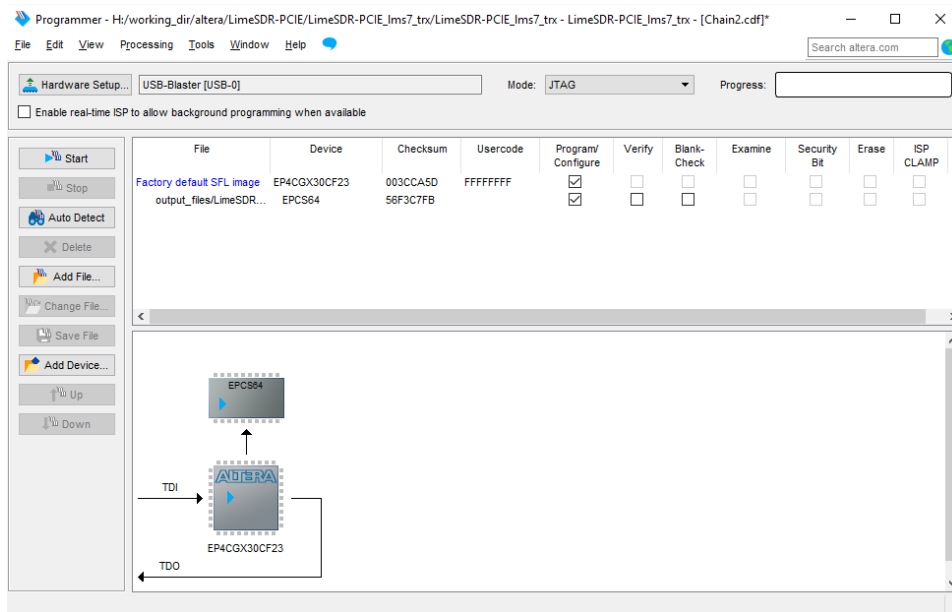

Figure 89 Adding programming file
- Apply settings as in Figure 89 and click Start.